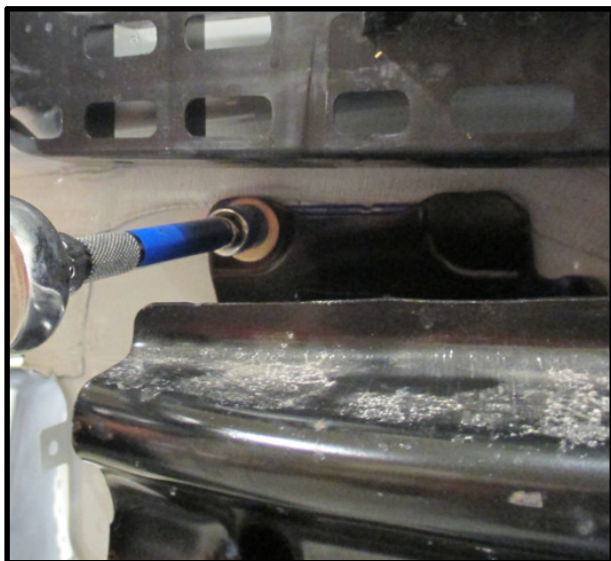
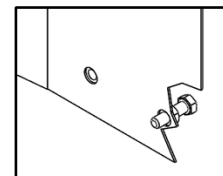

**Figure 3a**
**Figure 3**
- Remove rear fascia:** Gently pull up from the rear wheel well panel each side, unclipping the tabs inside. Work up to taillights and continue to gently remove along plastic tail light support. Using a small screwdriver or trim tool push down on cleats between the fascia and tail lights as needed. Continue to remove along inside bottom to the trunk, lifting fascia up from bottom as needed. Carefully pulling the fascia away from the vehicle. Use care at lower part of wheel well there are (2) fixed pins, carefully work fascia over pins (see figure 3a). If present disconnect any wiring harness or sensor from fascia. Both sides. Note: Use trim tool or screwdriver near corner – tight fit. See figure 3.
- Remove bumper:** Remove bumper (7) bolts (M13 socket and socket extension), lift up as needed to remove bumper. Remove and save for reinstallation.
**4b. Remove rear fascia:** Carefully pulling the fascia away from the vehicle. Use care at lower part of wheel well there are (2) fixed pins (see figure 3a), carefully work fascia over pins. If present disconnect any wiring harness or sensor from fascia. Both sides. Note: Use trim tool or screwdriver near corner – tight fit. See figure 3.